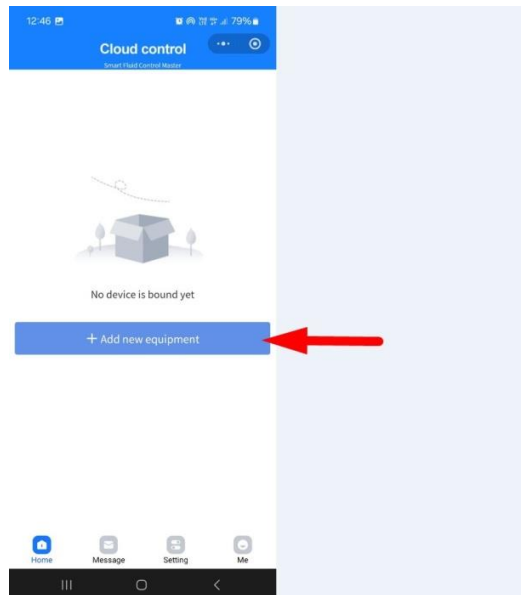

Figure 5
4. Add a new device by clicking the Add new equipment button (see Figure 5)